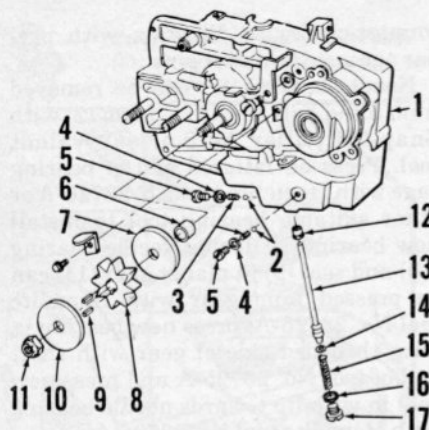

Fig. HL65-View showing chain drive sprocket and manual oiler pump components removed on models shown in Fig. HL64.
Fig. HL64—Exploded view of gear drive assembly used on models XP-1100, XP-1130A, Super XP-1130A, 1130G and 3100G. Refer to Fig. HL65 for view of opposite side of gearcase and chain drive sprocket. A 1/8-inch thick spacer (8) is used with XP-1100 models having an 11/16-inch wide worm gear (9); do not use spacer if a 13/16-inch wide worm gear is used. Ratios of 2:1 and 3:1 can be obtained by changing gear (13) and repositioning idler gear assembly to accommodate the different gear diameter. The 2:1 ratio gear has 42 teeth and the 3:1 ratio gear has 64 teeth.
To remove the sprocket shaft, unbolt and remove the oil pump housing and discard the two "O" rings (4—Fig. HL64). Hold sprocket (8—Fig. HL65) from turning and remove nut (11), outer washer (10), sprocket and keys, inner washer (7), spacer (6), then push sprocket shaft from gearcase. Spacer (8—Fig. HL64) and worm gear (9) can now be removed from shaft.